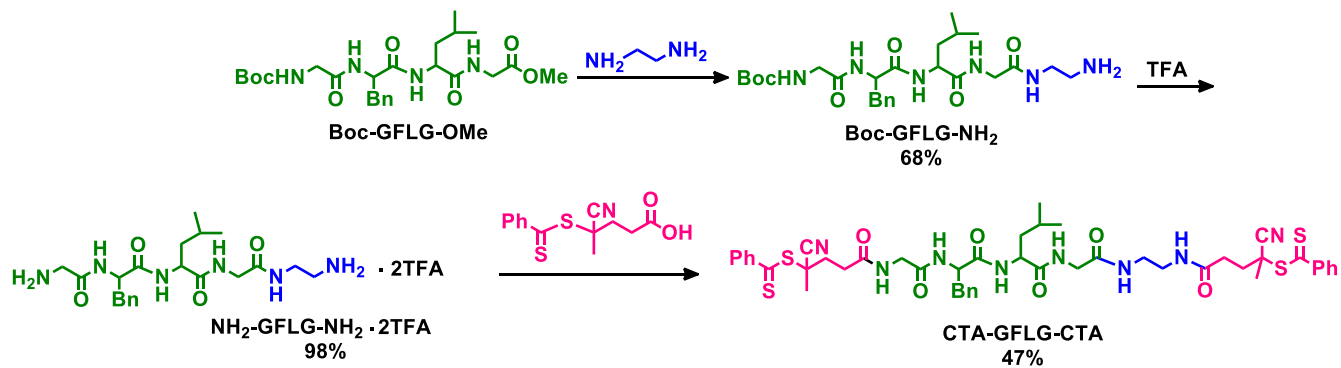

Fig. S3. Synthesis of CTA-GFLG-CTA.
3. Synthesis of CTA-GFLG-CTA	(Fig. S3)